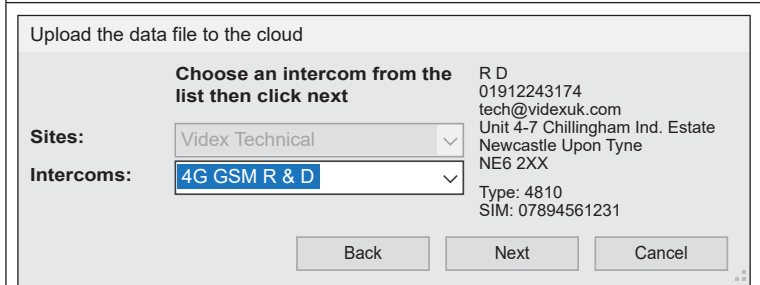

Fig. 109
6. From the intercoms drop down list select the name given to the GSM intercom that was setup in the **SMS Wizard PRO App**. Just below the site contact details the GSM intercom type and the SIM number will appear, as shown in **Fig.109**.
The **.dat** file data uploaded to the cloud will be linked to the GSM intercom that was selected in step 6, in the example **Fig.109** the named GSM intercom **'4G GSM R & D'**.